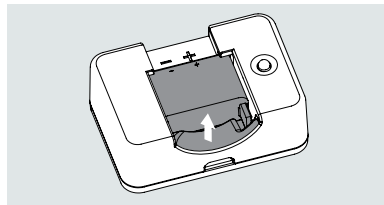

Figure 12
5. Remove the pump battery as shown in Figure 12: lift the battery from the charger groove.